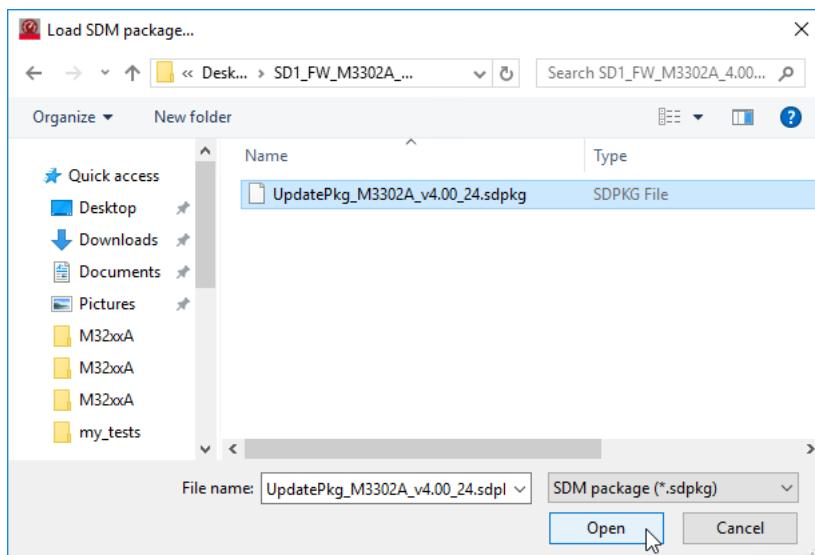

Figure 44 Accessing firmware update file from Load SDM package window
- **Load update package...**—In case your machine is offline, that is, does not have an active network connection, this feature is useful to load an updated and pre-saved firmware package so that you can still proceed with firmware updates on one or more connected M3xxxA modules. Click **File > Load update package...** to access the **Load SDM package...** window, as shown in Figure 44. Navigate to the folder where the firmware update file is saved. Open the required SDM package file with extension \*.sdpkg. You may proceed with firmware update on the module which the SDM package file corresponds to.